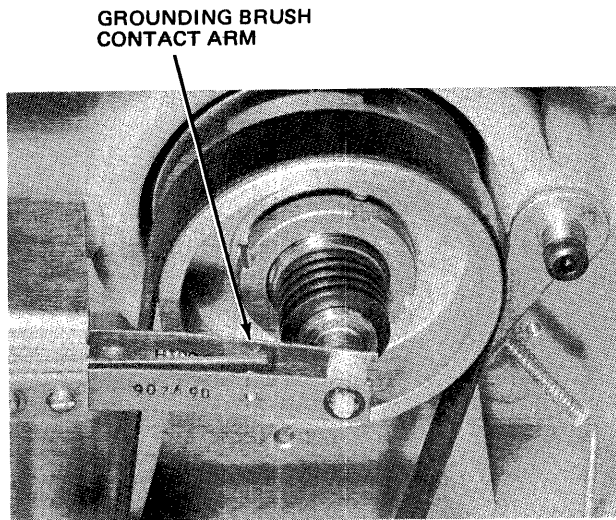

Figure 5-13. Spindle Grounding Brush Check
- With power on and disk pack spinning, check for continuity from rotating grounding brush, to brush contact arm (see Figure 5-13).